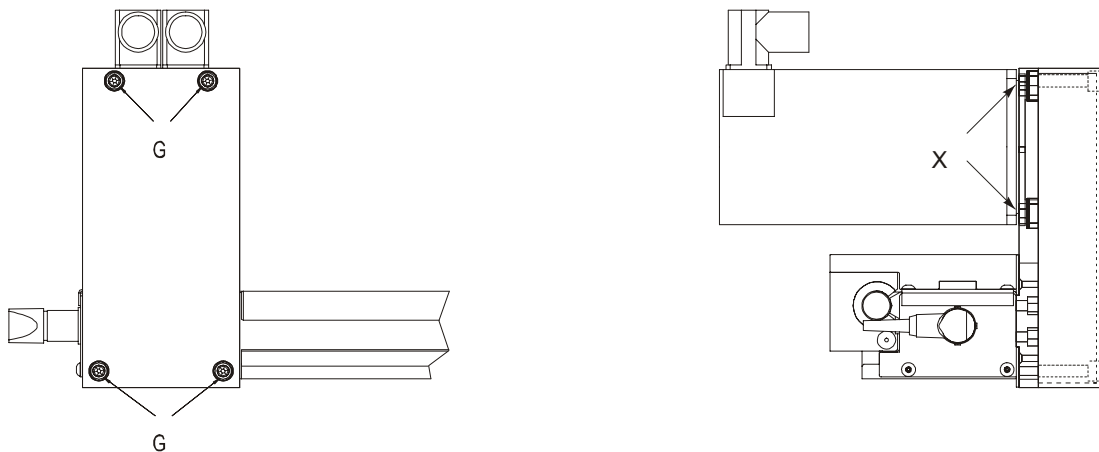

Figure 22: Belt Drive, Variation 2
- Undo the motor fastening screws (see Figure 22, X). The motor can then be moved gently towards the basic body. The toothed belt is relaxed.
- Press the motor away from the basic body. The toothed belt is tensioned. Tighten the motor fastening screws (see Figure 22, X).